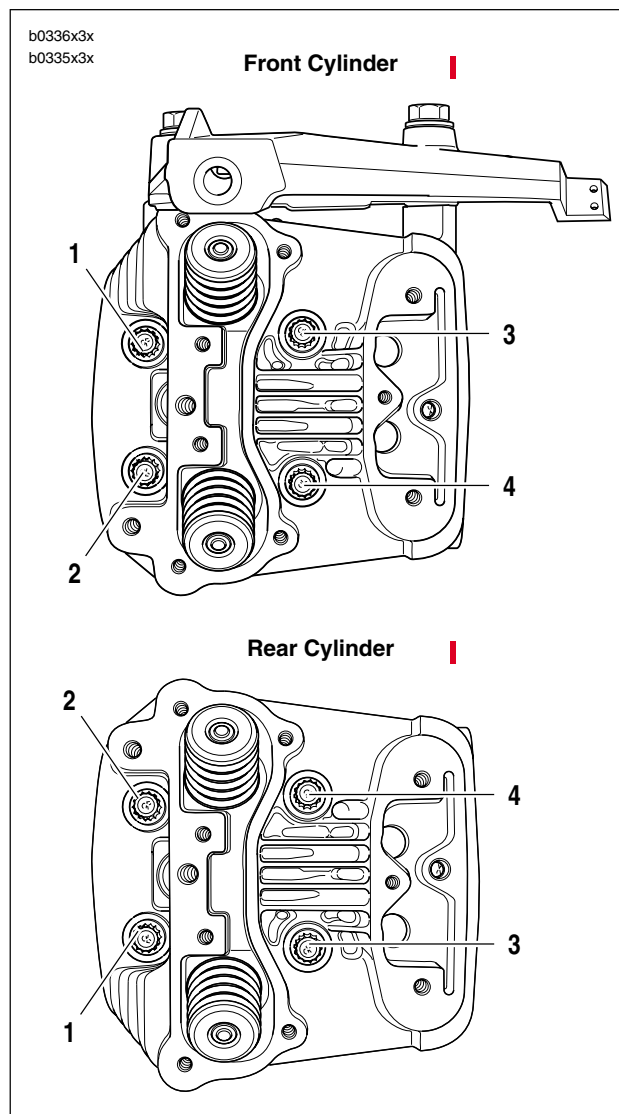

Figure 3-7. Head Screw Loosening/Tightening Sequence
**Distortion to the head, cylinder and crankcase studs may result if head screws are not loosened (or tightened) gradually in the sequence shown in Figure 3-7.**
9. See Figure 3-7. Loosen each head screw 1/8-turn following the sequence shown.